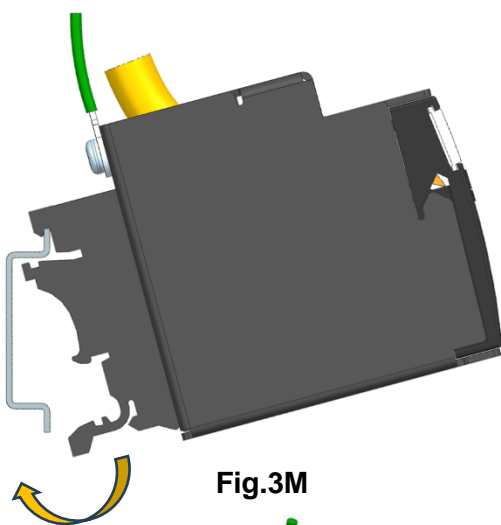

Fig.3M
3.4 Installation of Jack adapter onto the DIN rail (Fig.3M, 3N, 3P & 3Q)